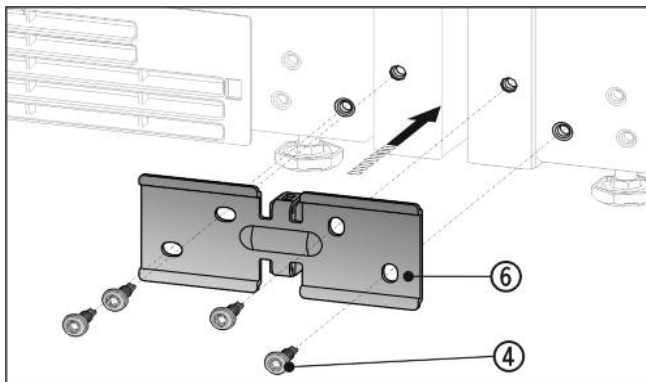

Fig. 8
- Slide the bracket Fig. 8 (6) on with the spacer between the appliances and screw in loosely with the 4 screws Fig. 8 (4).